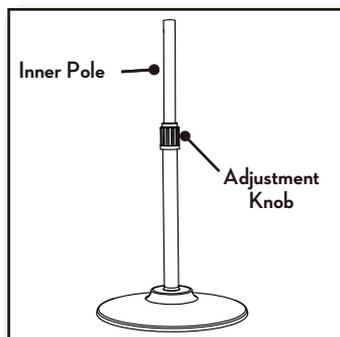

Figure 8
5. Grasp the telescopic pole firmly and twist the adjustment knob counter clockwise to loosen. Figure 8.
6. Raise the inner pole to maximum height and tighten the adjustment knob by twisting clockwise until secure. Figure 8.